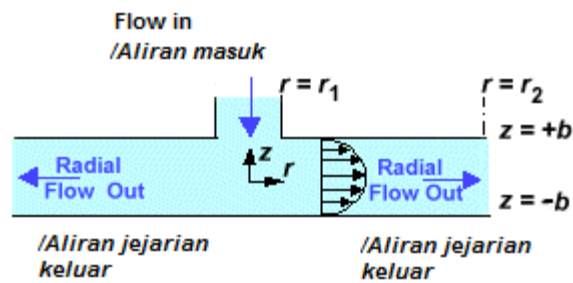

Figure 2 - Radial flow between two parallel disks
3. Steady, laminar flow occurs in the space between two fixed parallel, circular disks separated by a small gap $2b$. The fluid flows radially outward owing to a pressure difference $(P_1 - P_2)$ between the inner and outer radii r_1 and r_2 , respectively. See Figure 2. Neglect end effects and consider the region $r_1 \leq r \leq r_2$ only. Such a flow occurs when a lubricant flows in certain lubrication systems.